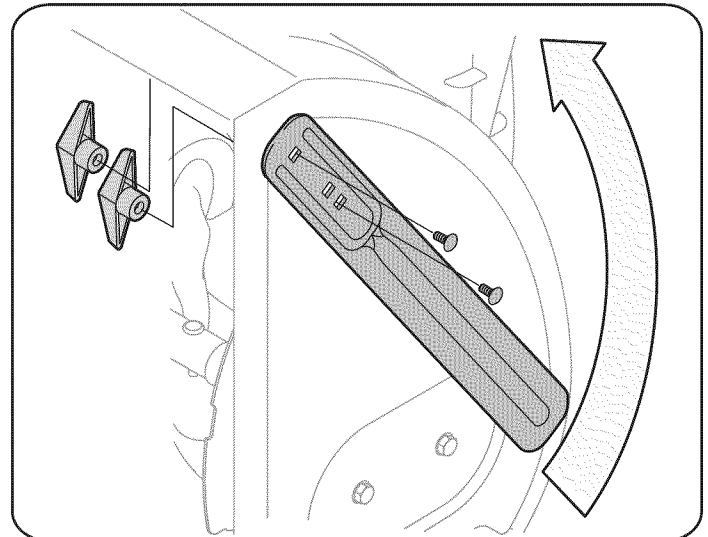

Figure 7
1. Remove the four wing knobs (two on each side) and carriage bolts. Place drift cutter in upright position and re-secure. See Fig. 7.